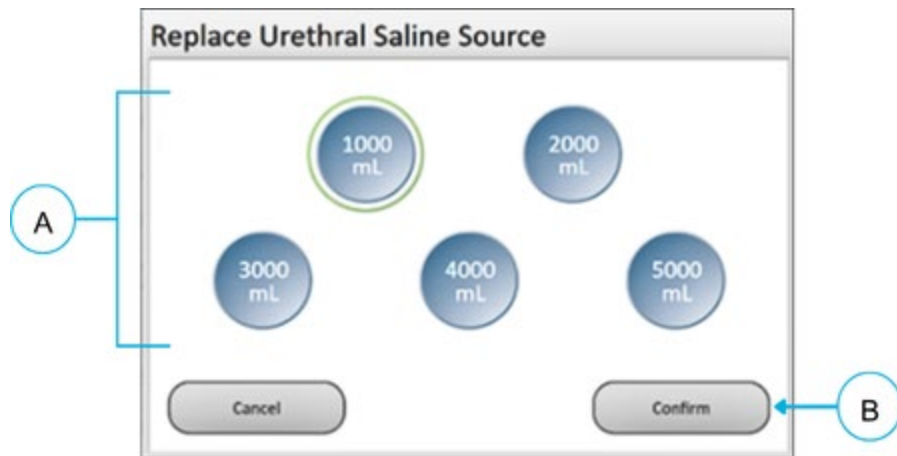

Figure 14-7: Replace Urethral Saline Source Window
3. On the Generator screen (**Figure 14-7**):
- On the Replace Urethral Saline Source window, select the volume associated with the size of the Urethral saline bag (A)
- Select **[Confirm] (B)**